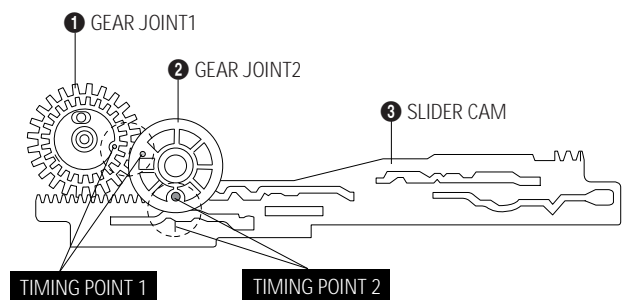

Fig. 4-20 Gear Joint 1,2 Assembly
- 1) Be sure to align dot mark of Gear Joint 1 ❶ with dot mark of Gear Joint 2 ❷ as shown Fig 4-20. (Refer to Timing point1)
- 2) Confirm the Timing Point 2 of the Gear Joint 2 ❷ and Slider Cam ❸.